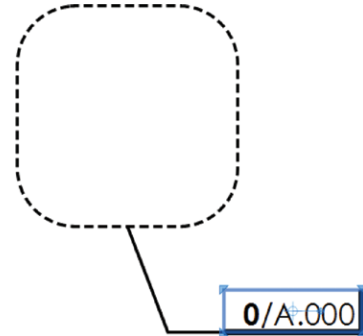

Figure 13.34 Add text to the Detail callout.
10. Activate the Text tool and add a text box on the long end of the leader line. Enter the generic text **0/0.00**. Reposition and resize the text box as needed (Figure 13.34).